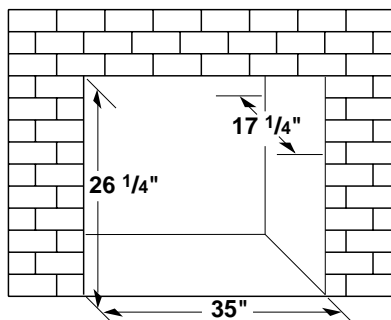

Figure 20 - Rough Opening for Installing in Masonry Fireplace
1. Use dimensions shown in Figure 20 for the masonry fireplace opening.